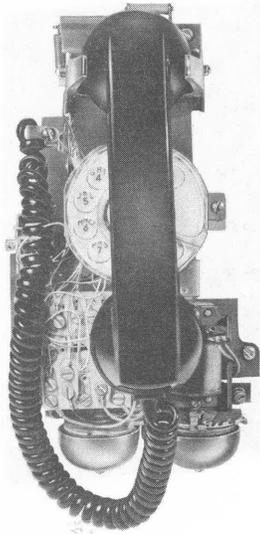

Fig. 6—526B or BM Telephone Base Assembly
2.10 526B or BM Telephone Set Base (Fig. 6).